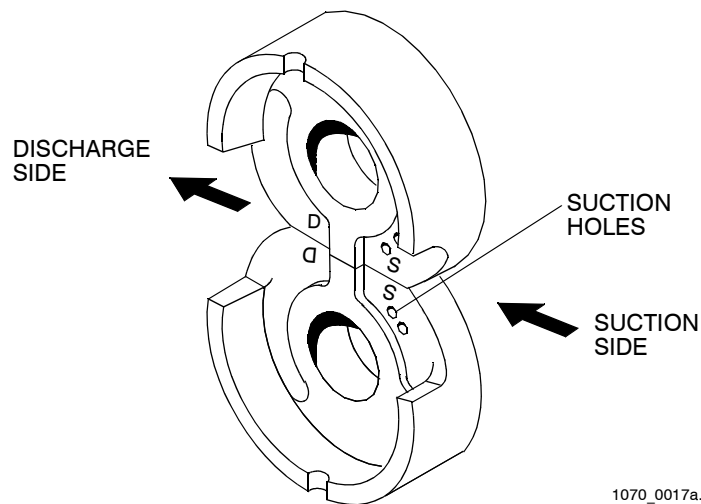

Figure 2-3. Liner Installation
2. Install two liners (21) in pump body (25). Make sure liner suction holes face pump body suction port as shown in Figure 2-3.